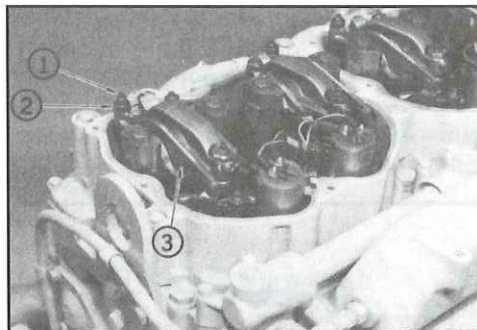

Fig. 5
Refer to Fig. 5. Loosen the locknut (2) and the adjusting screw (1) on the exhaust rocker arm (3).